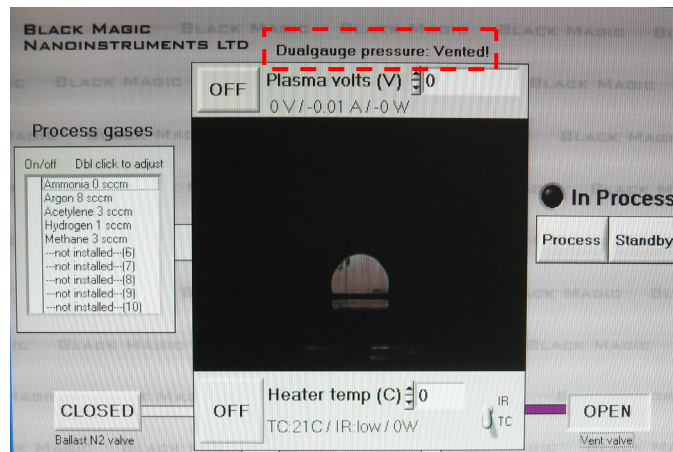

Figure 9. The reactor chamber is vented
- 13- The chamber will slowly vent with Nitrogen gas. Look for the *Vented!* indicator in the Dualgauge Pressure field (Figure 9).